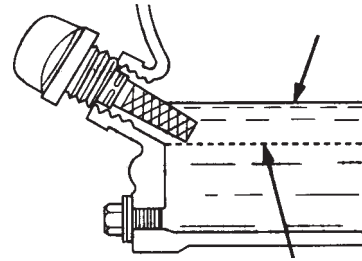

Figure 10. Engine Oil Dipstick (Oil Level)
4. If the oil level is low (Figure 10), fill to the edge of the oil filler hole with the recommended oil type (Table 7). Maximum oil capacity is 2.33 pints (1.09 liters)